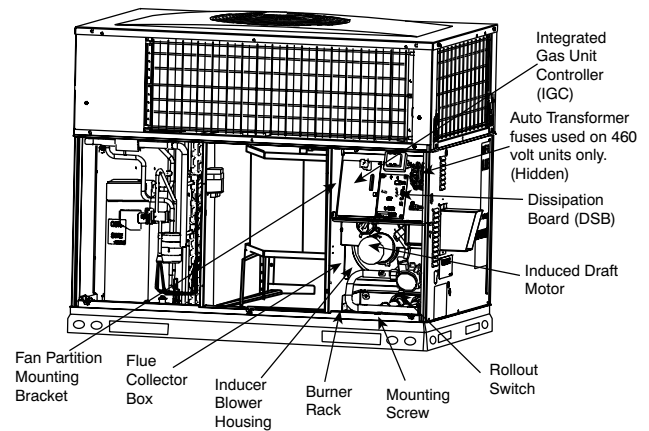
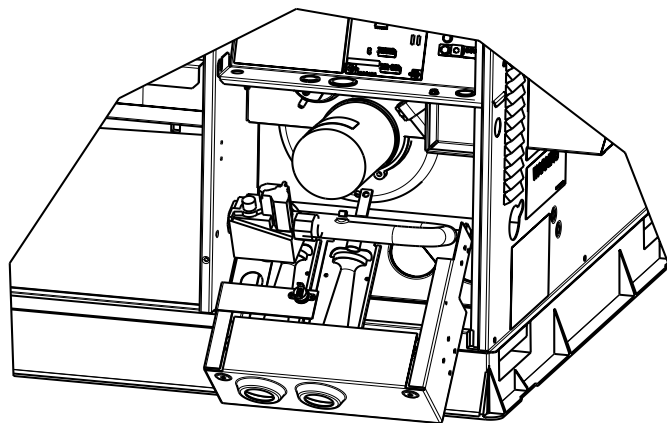

Fig. 24 – Blower Housing and Flue Collector Box
Fig. 27 – Burner Rack Removed
3. Slide the assembly out of the unit. (See Fig. 27). Clean the blower wheel. If additional cleaning is required, continue with Steps 4 and 5.
2. Remove the 11 screws holding the flue collector box cover (See Fig. 24) to the heat exchanger assembly. Inspect the heat exchangers.
5. Remove fan partition mounting bracket (2 screws located on the left side of control compartment on the fan partition panel). Slide bracket forward, bottom first, to remove. (See Fig. 24.)
7. Remove the mounting screw that attaches the burner rack to the unit base (See Fig. 24).
8. Partially slide the burner rack out of the unit (see Fig. 24 and Fig. 27). Remove ignitor and sensor wires at the burner assembly. Remove wires to rollout switch.
9. Slide the burner rack out of the unit (See Fig. 24 and Fig. 27).